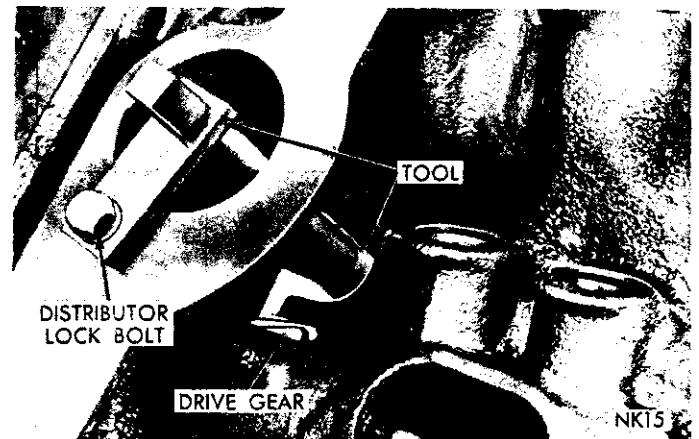

Fig. 23—Camshaft Holding Tool C-3509
When installing timing chain, use Tool C-3509 to prevent camshaft from contacting the welch plug in the rear of engine block. Remove distributor and oil pump-distributor drive gear. Locate tool against rear side of cam gear and attach tool with distributor retainer plate bolt (Fig. 23).
(1) Lubricate camshaft lobes and camshaft bearing journals and insert the camshaft to within 2 inches of its final position in cylinder block.
(2) Install Tool C-3509 with tongue back of distributor drive gear, (Fig. 23).
(3) Hold tool in position with distributor lock plate screw. This tool will restrict camshaft from being pushed in too far and prevent knocking out the welch plug in rear of cylinder block. **Tool should remain installed until the camshaft and crankshaft sprockets and timing chain have been installed.**